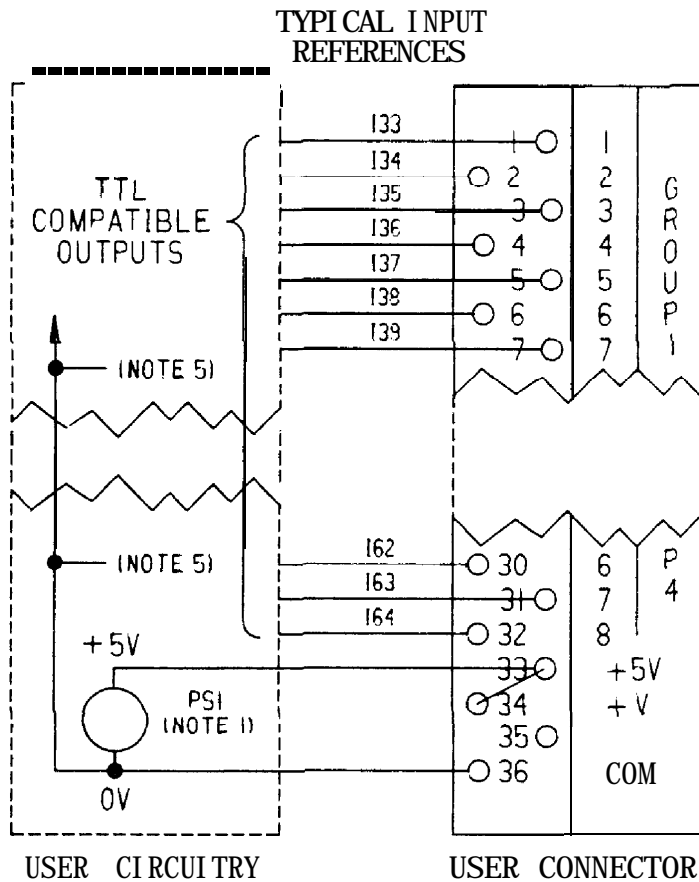

FIGURE 5. RECOMMENDED USER INPUT CONNECTIONS FOR TTL MODE OPERATION
The circuit-board jumpers must also be set to configure the module to operate in the desired system configuration. For example: sink or source, invert or non-invert, TTL or 10-50 volt inputs. Refer to figure 2, User Items and appropriate figure 5, 6 or 7.
**Jumper JP3 must be set correctly for the voltage in use. See figures 5, 6, and 7. Failure to set JP3 to the correct position may prevent module from operating.**
Refer to figures 5, 6 and 7 for Typical User Input connections to this module. In the TTL mode of operation, the low (negative) side of each of the TTL inputs must be returned to the Module Common (COM) terminal Pin 34.